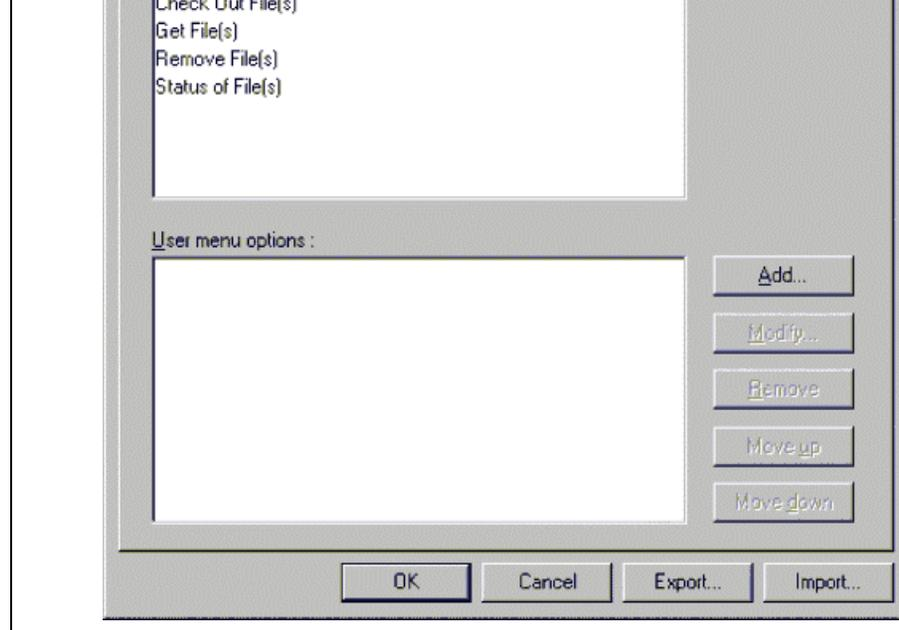
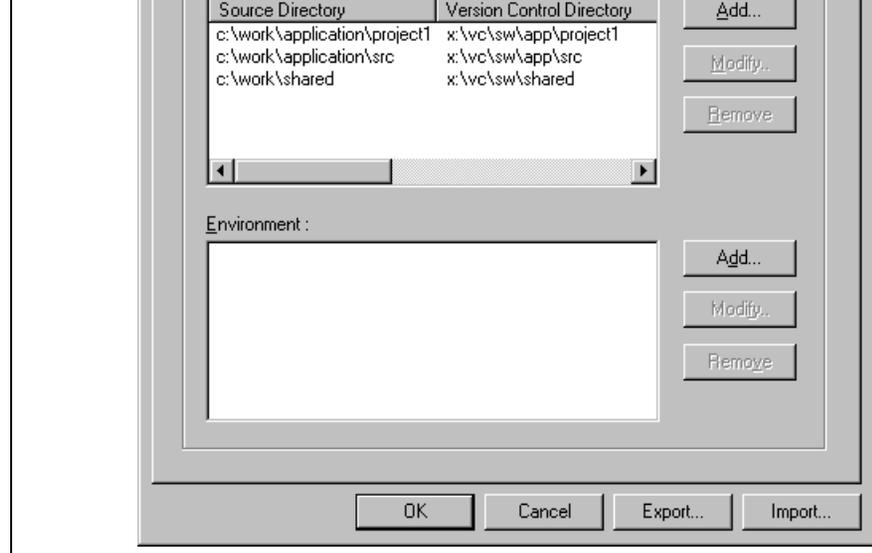

Figure 8.1: Version Control Setup Dialog Commands Tab
Figure 8.7: Version Control Setup Dialog Projects Tab
The custom version control support allows you the most flexibility in specifying how a version control system is to be used. To configure it, select [**Version Control->Configure...**]. The “Version Control Setup” dialog is displayed with the “MERGEFORMAT” option selected (figure 8.1).
1. Select [Version Control->Configure...]. The dialog shown in * MERGEFORMAT figure 8.1 is displayed.
However, when executed, this command can only ever get the file `MAIN.C`. To resolve this problem, `HEW` uses a system of placeholders and directory mappings. The latter tell the `HEW` which "working" directories (where source files are being worked on) map to which "controlled" directories (i.e. where the source files are stored in the version control system). Mappings between these two directory systems can be specified via the "Projects" tab of the "Version Control Setup" dialog * MERGEFORMAT (figure 8.7).
1. Select [**V**ersion **C**ontrol->**C**onfigure...]. The dialog shown in * MERGEFORMAT figure 8.1 displayed. Select the “Projects” tab, and the dialog shown in * MERGEFORMAT figure 8.7 w displayed.
1. Select [Version Control->Configure...]. The dialog shown in * MERGEFORMAT figure 8.1 displayed. Select the "Projects" tab, the dialog shown in * MERGEFORMAT figure 8.7 will be displayed.
Select the “Projects” tab of the “Version Control Setup” dialog to view the current settings * MERGEFORMAT (figure 8.7).